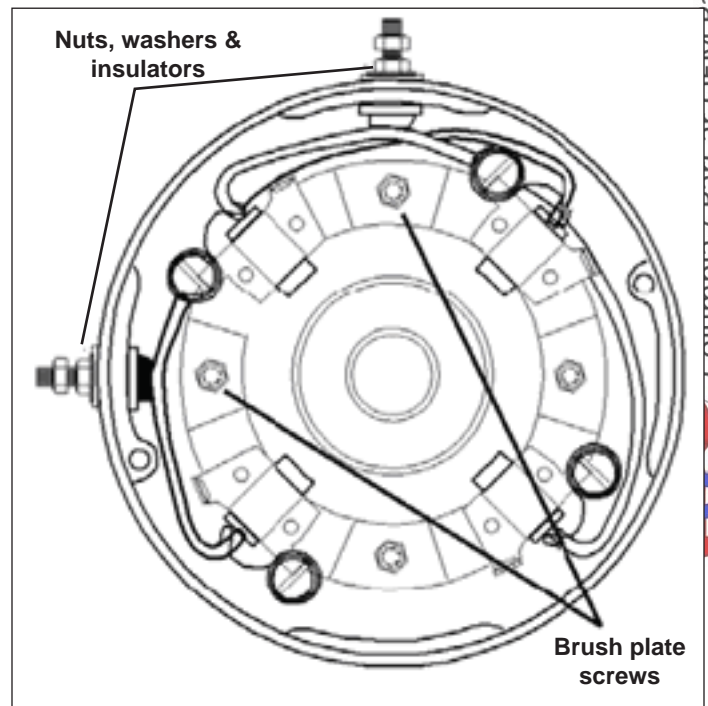
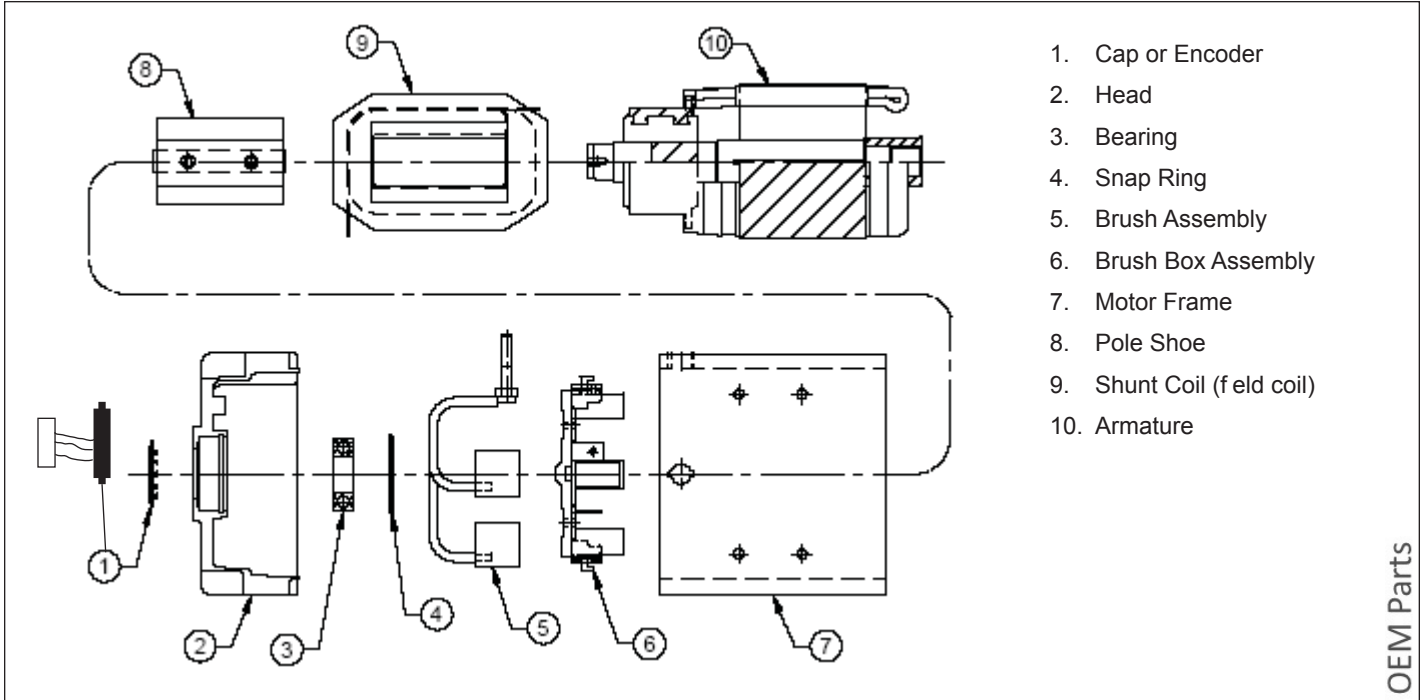
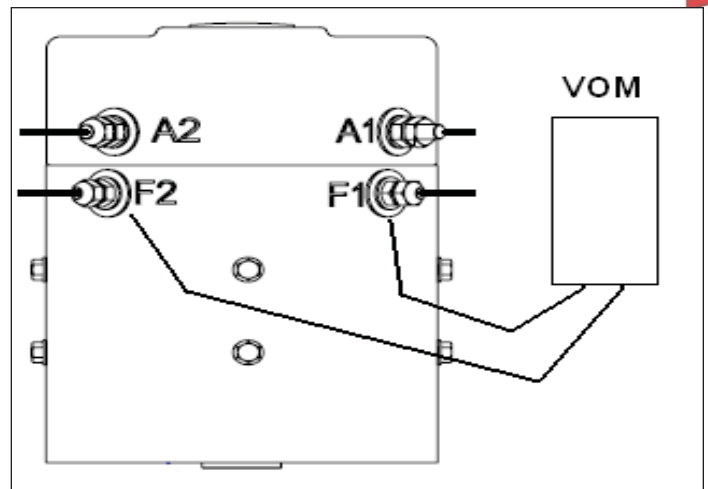

Figure 9-7. Brush Box and Brushes
Figure 9-9. Traction Motor
Figure 9-14. Testing for Continuity Between Motor Frame and Field Coil
- Remove 4 brush plate screws (Figure 9-7). Push brush terminal studs through, into the center of the head as the brush box, brushes and terminal assemblies are removed. (See exploded view Figure 9-9).
Brushes should be inspected for uneven wear and signs of overheating, such as discolored brush leads and brush springs. Check brush box for physical damage. Make sure brush holders are not loose on the brush box assembly. See Figure 9-9.
There should be no continuity between the frame of the motor and field coil (Figure 9-9). Set the volt ohm meter (VOM) to measure Ohms. See Figure 9-14.